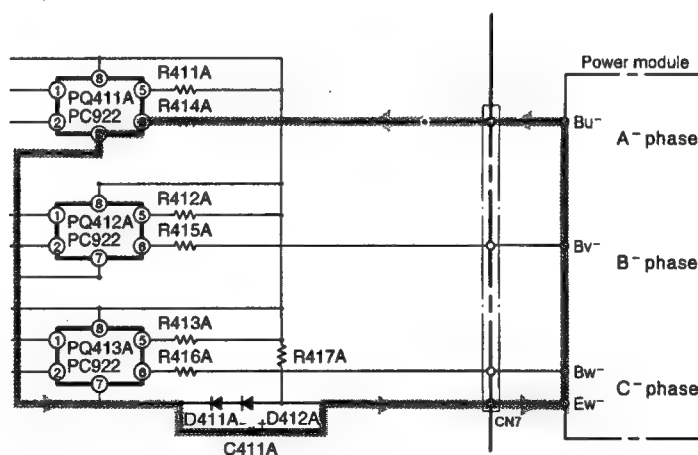

Fig. 8-2
- When pin ②⑥ of the micro computer goes "LO" → "HI", a photocoupler between PQ411A pins ① and ② turn off and reverse bias current flows to C411A→power module's Ew⁻ terminals → Bu⁻ terminals → R414A→PQ411A to cut off the lower arm transistors. (Fig. 8-2)
- When the peak current cut off function operates, CHOP–HIC pins ⑤ and ⑥ become 0V, PQ401A–PQ403A and PQ411A–PQ413A turn off and the upper/lower arm drive circuits stop.
- When a reset signal is applied, CHOP–HIC pins ⑤ and ⑥ become 0V, PQ401A–PQ403A and PQ411A–PQ413A turn off and the upper/lower arm drive circuits stop.